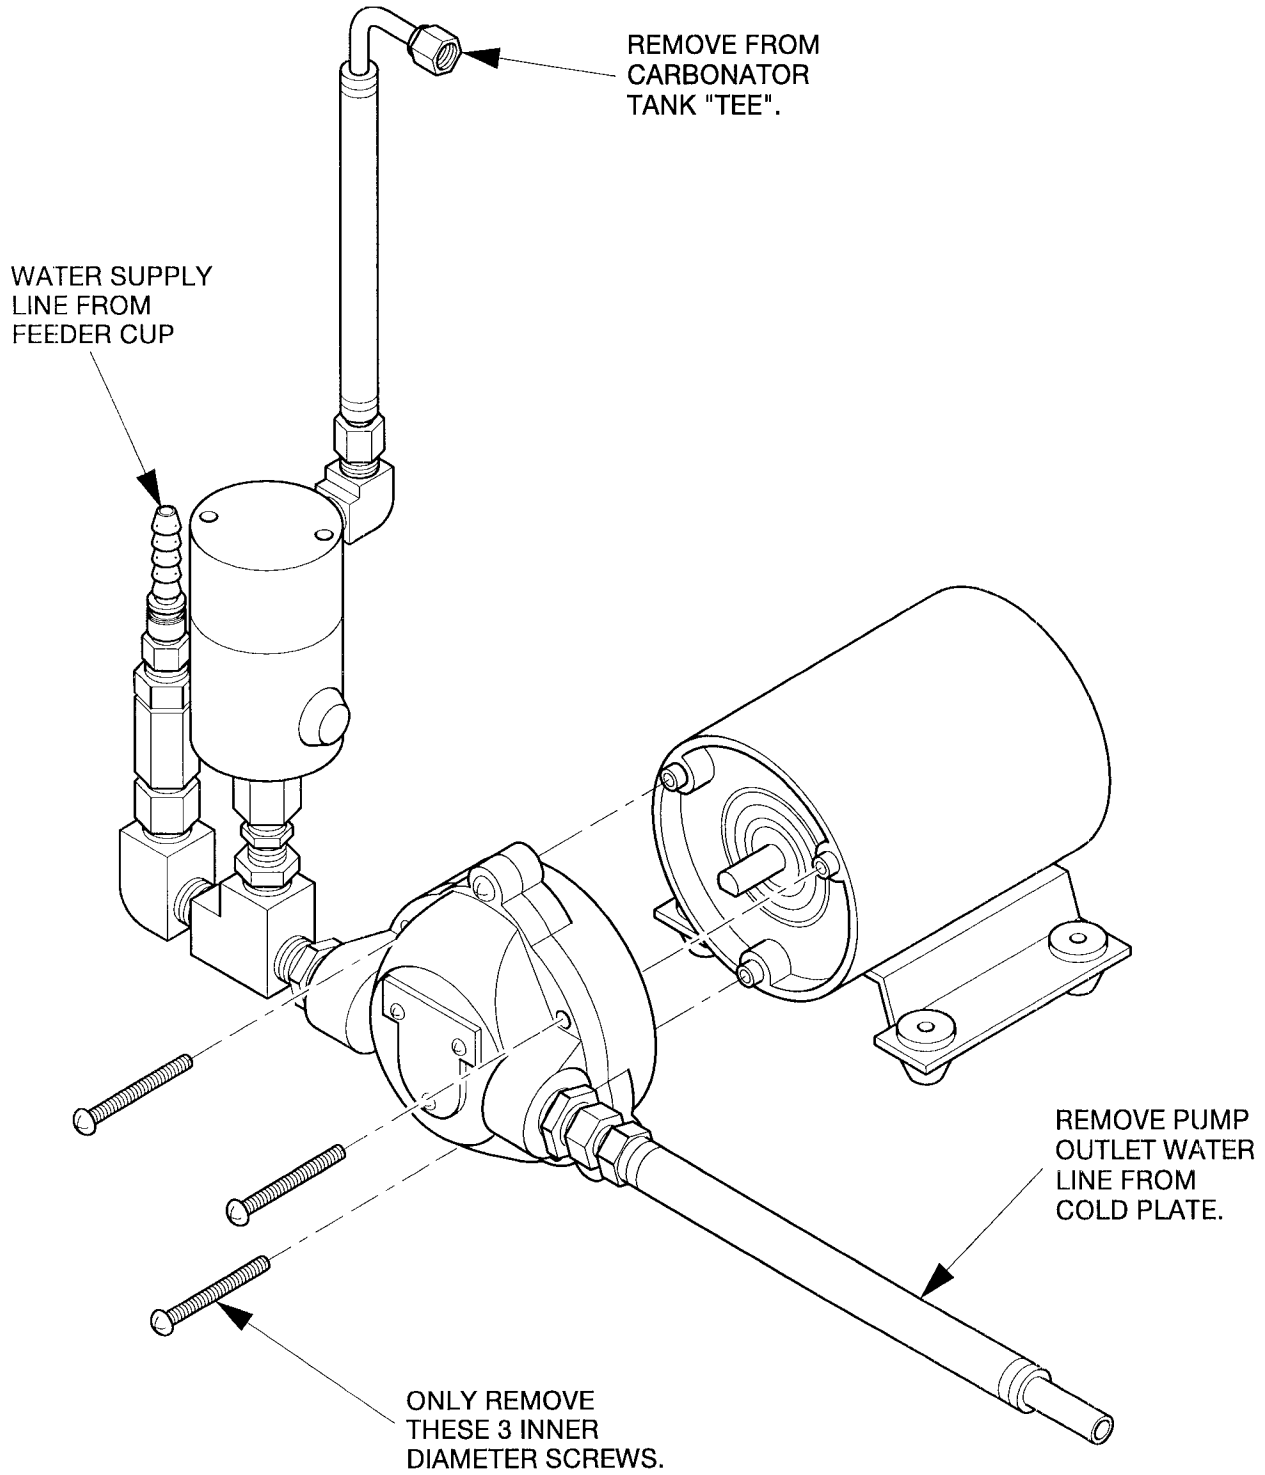

Figure 1
1. Remove the pump outlet water line at the cold plate (figure 1).
2. Remove the three inner diameter screws from the front of the pump as shown (figure 1), and pull the pump housing away from the motor.
3. Remove the water supply line from the pump (figure 1).